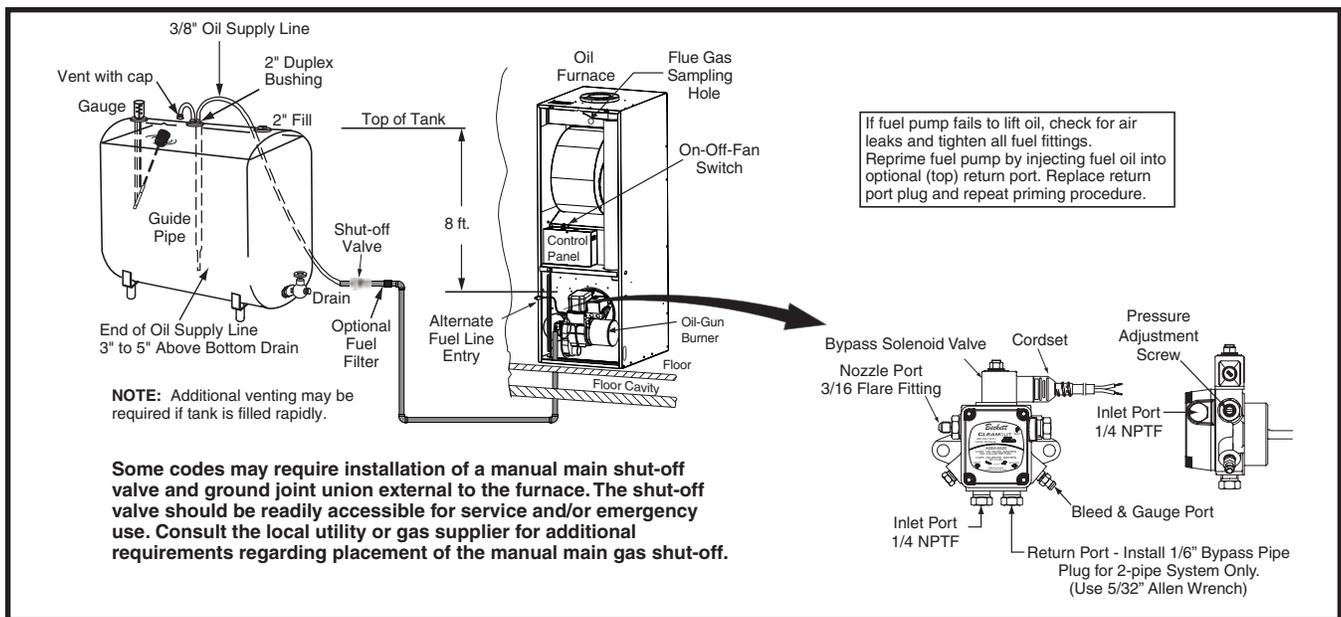

Figure 29. Typical Oil Piping for Above Ground (Single-Line) Supply
- A fuel or tank gauge is recommended for easy checking of the fuel level. Check the gauge reading with a dipstick. See Figure 29 \(page 19\).
The One-Line System is highly recommended where vertical lift, from bottom of tank to pump, is less than 8 feet. See Figure 29 \(page 19\). A single line hookup has the advantage of lower cost and quieter operation.
2. Install duplex bushing for two 3/8" lines in the top fitting of the tank. See Figure 29.